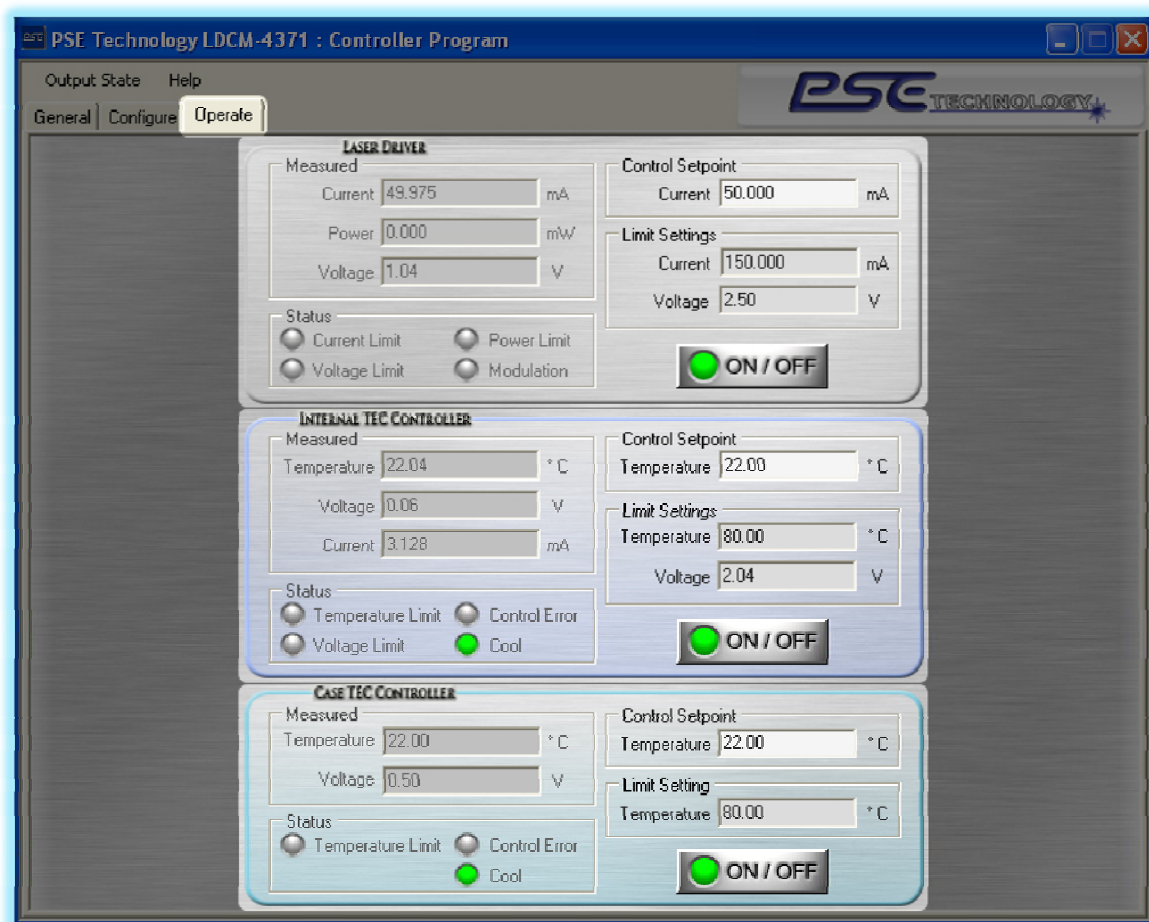

Figure 3.11: Operate Menu Screenshot
**Operate:** As shown in Figure 3.11 below, the third tab in the sequence is the Operate tab. Key instrument parameters can be set, adjusted, and displayed through this menu in the Instrument Controller Program. This menu is not intended for detailed instrument configuration, the main purpose of this menu is for instrument operation. It is broken into three individual sections.